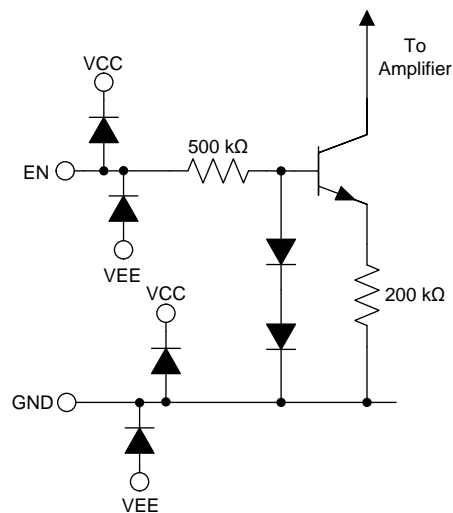

Figure 43. Enable Pin Simplified Internal Schematic
The enable pin (EN) of the OPA1622 is used to toggle the amplifier enabled and disabled states. The logic levels defining these two states are:  $V_{EN} \leq 0.78 \text{ V}$  (shutdown mode), and  $V_{EN} \geq 0.82 \text{ V}$  (enabled). These threshold levels are referenced to the device ground pin. The enable pin can be driven by a GPIO pin from the system controller, discrete logic gates, or can be connected directly to the V+ supply. Do not leave the enable pin floating because the amplifier is prevented from being enabled. Likewise, do not place GPIO pins used to control the enable pin in a high-impedance state because this placement also prevents the amplifier from being enabled. A small current flows into the enable pin when a voltage is applied. Using the simplified internal schematic shown in Figure 43, use Equation 4 to estimate the enable pin current:
As illustrated in Figure 43, the enable pin is protected by diodes to the amplifier power supplies. Do not connect the enable pin to voltages outside the limits defined in the *Specifications* section.
The inclusion of a ground pin in the OPA1622 architecture allows the internal enable circuitry to be referenced to the system ground, eliminating the need for level shifting circuitry in many applications. The internal amplifier compensation capacitors are also referenced to this pin, greatly increasing the ac PSRR. For highest performance, connect the ground pin to a low-impedance reference point with minimal noise present. As shown in Figure 43, the ground pin is protected by ESD diodes to the amplifier power supplies. Do not connect the ground pin to voltages outside the limits defined in the *Specifications* section.